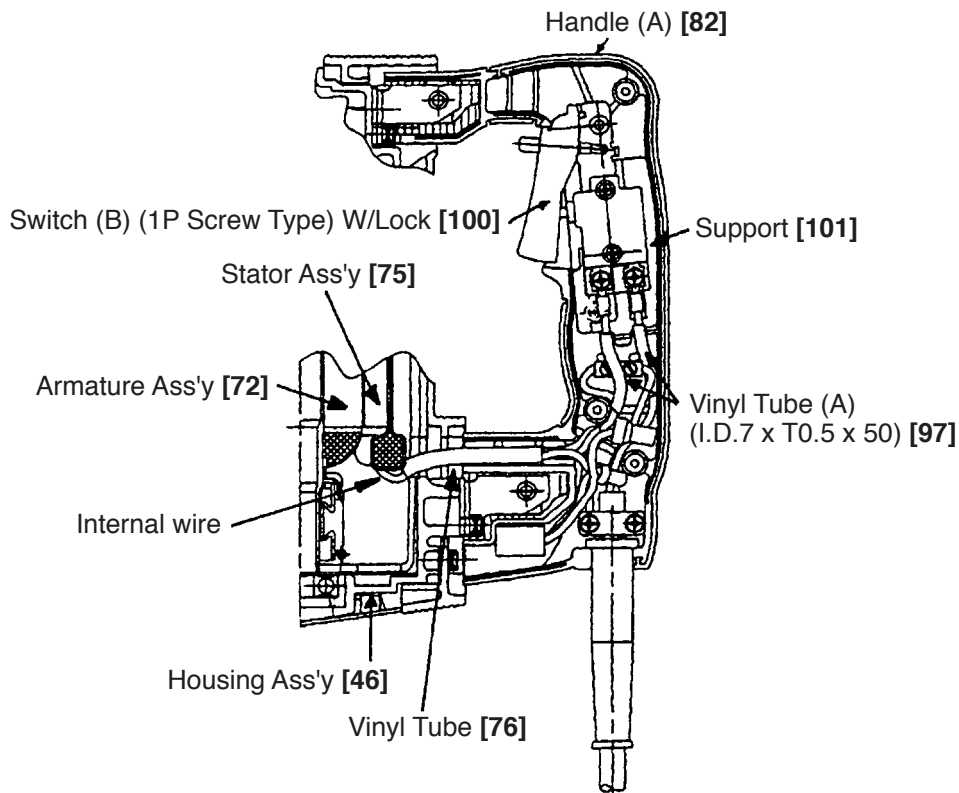

Fig. 22
- Safety precautions in wiring work (Fig. 22)